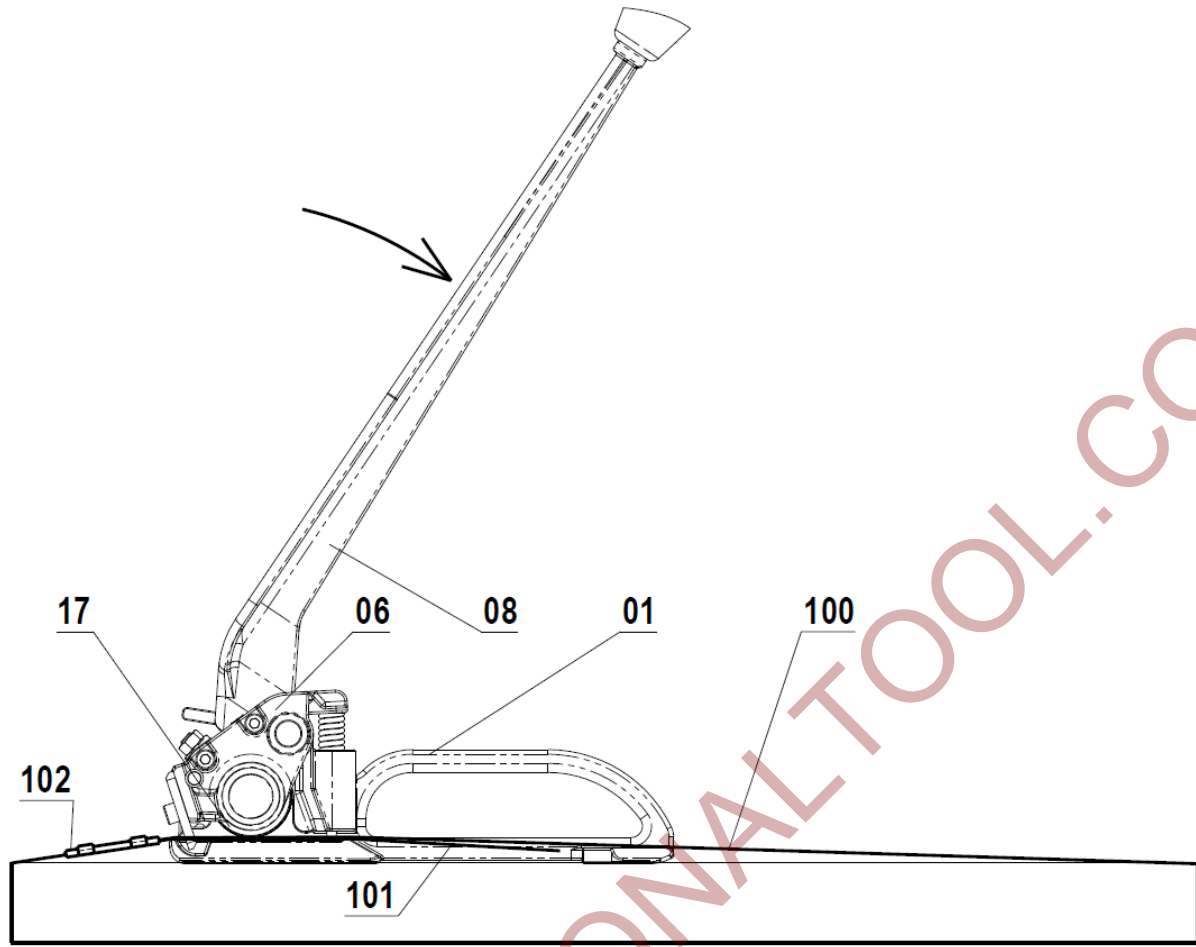

Fig. 3
2. Apply tension by ratcheting **Tension Handle 08** as shown on Fig. 3.